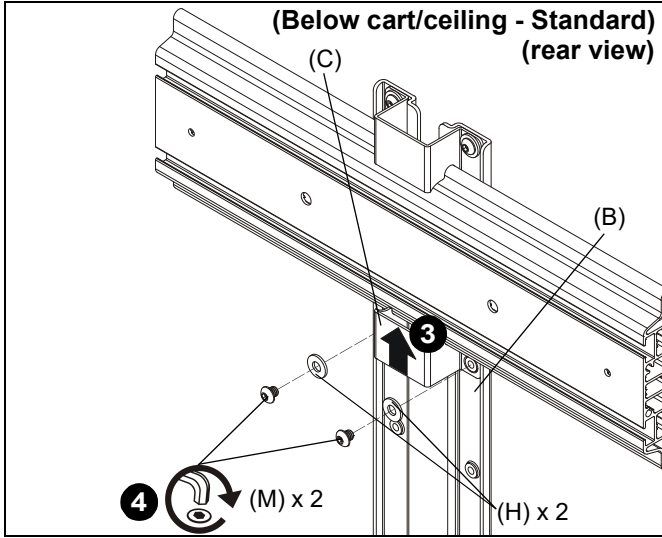

Figure 8
3. Slide second shelf bracket (C) underneath head assembly, lining up holes on shelf bracket (C) to holes on main bracket (B). (See Figure 8)
4. Use two 1/4-20 x 1/4" button head cap screws (M) and two large washers (H) to secure shelf bracket (C) to main bracket (B). (See Figure 8)